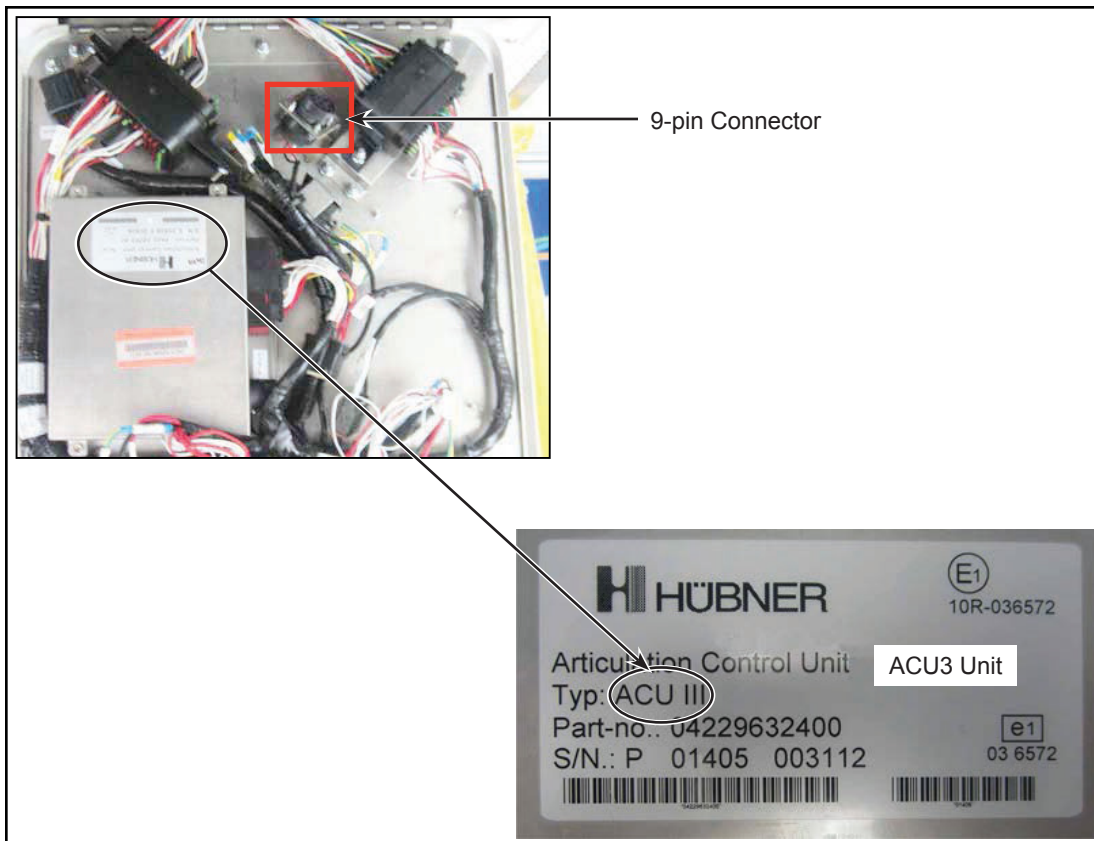

Figure 1 - Typical Location of ACU3 Unit and 9-pin Connector
- 1.2. Identify the ACU III unit installed (see Figure 1).
- 1.3. Locate the 9-pin ACU connector (see Figure 1).